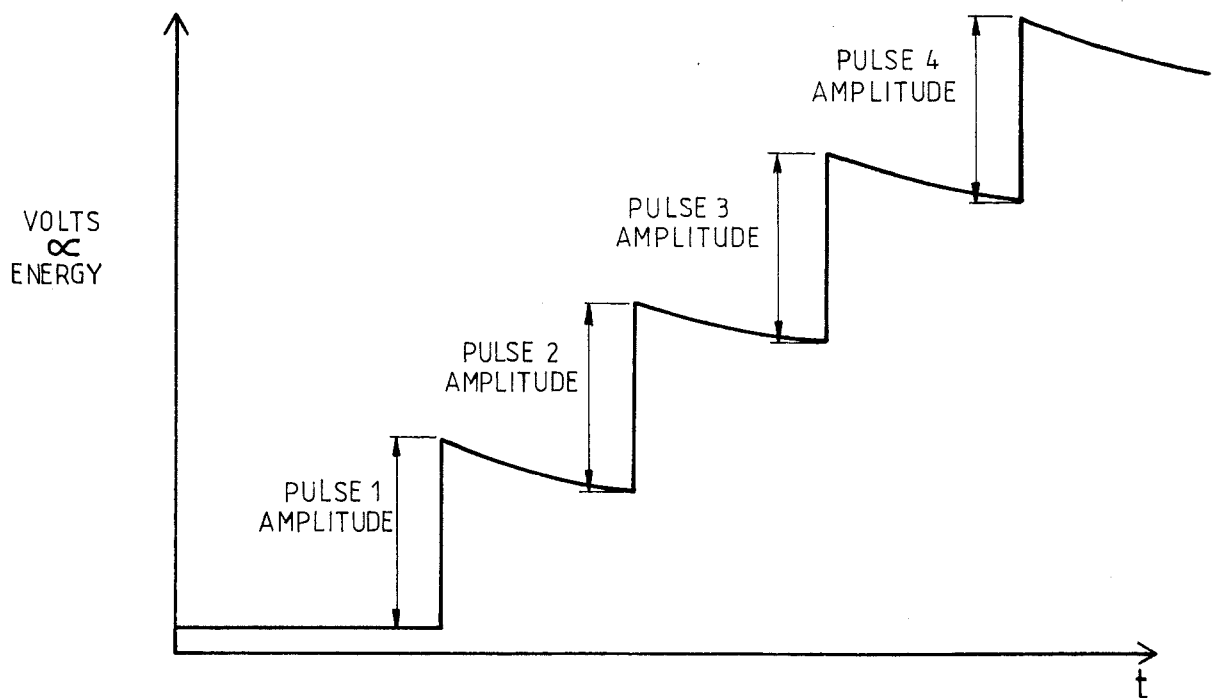

FIG 4.2 C.R.O. DISPLAY OF FOUR PULSE LASER OUTPUT
- iv) Switch on the laser and monitor the output on an oscilloscope. Adjust Pulse 1-3 balance controls to obtain approximately equal energy in all four pulses (Figure 4.2.), and adjust the flashlamp voltage to obtain the required overall output.